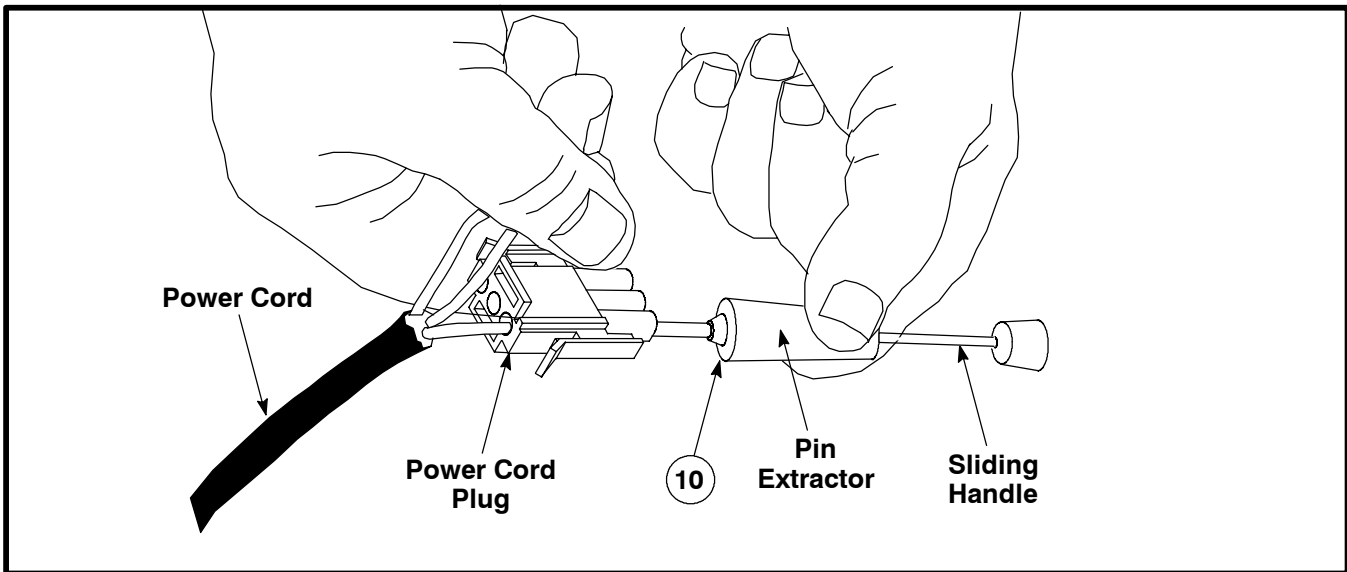

Figure 4-14. Removing the Power Cord Plug from the Power Cord
1. Using the Pin Extractor, insert it into each of the three sockets on the Power Cord Plug. Push the Pin Extractor in the open end of the plug until it presses against the tabs on each wire end. Press the sliding handle on the Pin Extractor to push the wire end out of the Power Cord Plug. See Figure 4-14.